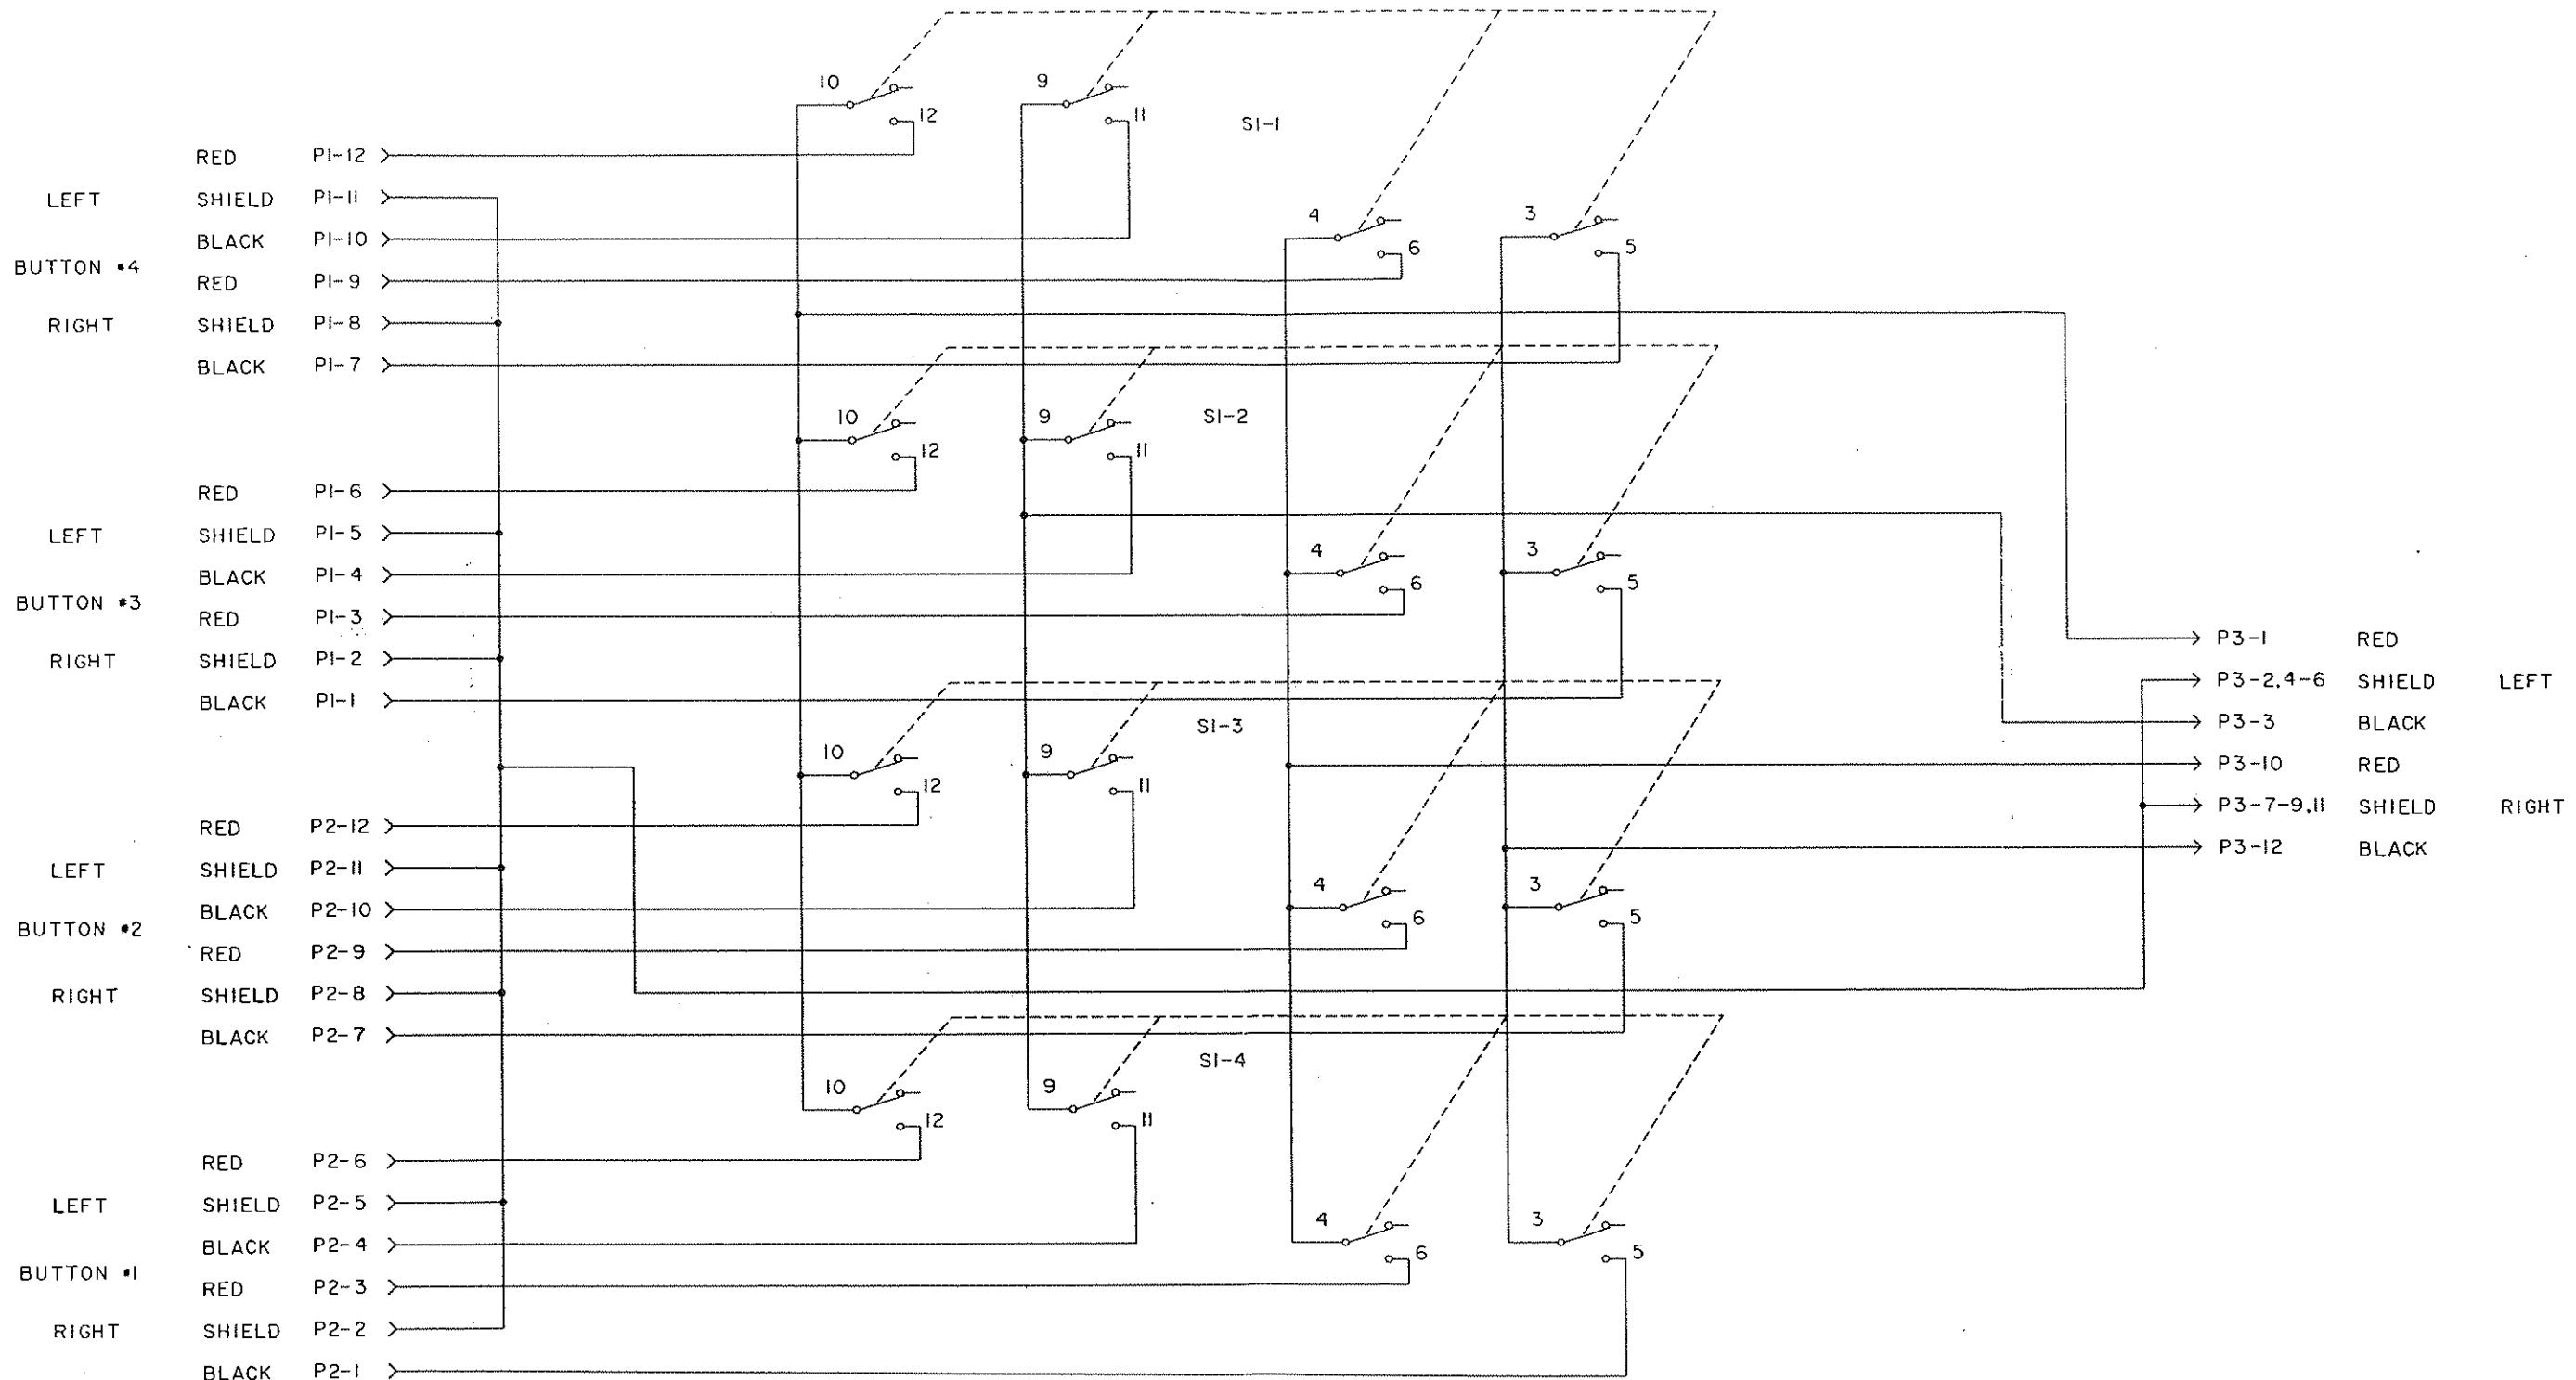

FIGURE 4-2 SCHEMATIC
Step 6. Place assembled socket in its appropriate hole in the header and carefully insert until it locks into place with a click. Refer to schematic 839-6377-092 (Figure 4-2) for proper header wiring.